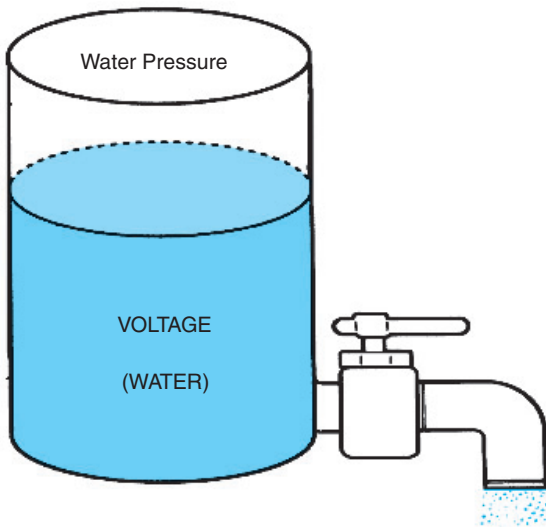
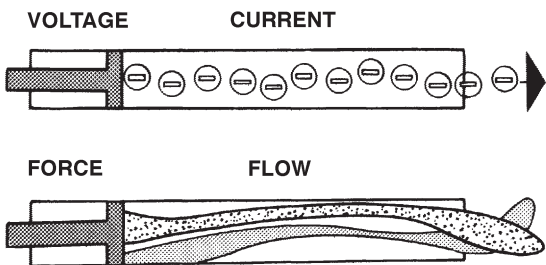

Figure 3-2. Voltage and water pressure.
Figure 3-3. Voltage pushes current flow like force pushes water flow.
Voltage is measured in volts (V). Since it is used to "move electrons," an externally applied electrical potential is sometimes called an "electromotive force" or EMF. Potential, voltage, and EMF all mean the same thing. You can think of voltage as the electrical "pressure" (Figure 3-2) that drives electron flow or current, similar to water pressure contained in a tank. When voltage is applied to a disconnected length of wire (open circuit), there is no sustained movement of electrons. No current flows in the wire, because current flows only when there is a difference in potential (Figure 3-3). Check the voltage with a meter, and you will find that it is the same at both ends of the wire. (See the section on "DMM Operating Principles" in Chapter 3 of the *Shop Manual*.)